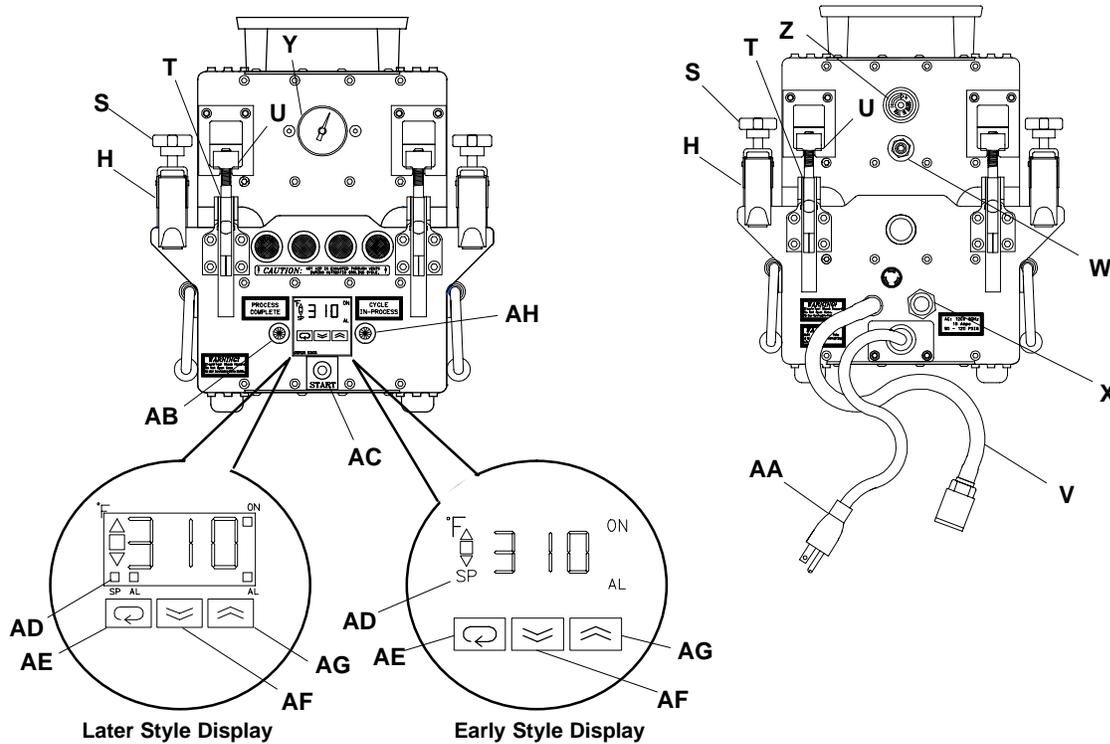

Figure 6: Heat Press - Front Side View (left) & Back Side View (right)
<p>Upper half of press is heavy and may require two people to lift it. Make sure temperature controller and pressure gauge are on the same end. Lock down the two main tension latches (T of Figure 6), on each end. Latches should be snug but not tight. If latches are too tight or too loose adjust barrel nut (U), on each latch, until a slight amount of resistance is felt while being locked.</p>
- Connect gray bladder air hose (V of Figure 6), attached to bottom half of heat press, to fitting (W) on top half. Apply 75–125 PSI (525 to 875 kPa) supply air pressure to air inlet fitting (X) on lower press half [gauge (Y) on front should read 15 psi]. If necessary, adjust regulator (Z) on back of press.
10. Adjust the required set point temperature (listed in Table 1) on temperature controller. The set point temperature is displayed when the green (later style) or red (early style) "SP" indicator (AD of Figure 6) is lit on the display. The  key (AE) will toggle the display between the present and set point temperature. Adjust the set point temperature by depressing the  (AF) and  (AG) keys.
11. Depress the start button (AC). The green (AB) process "complete" indicator will go out and the red (AH) "cycle in-process" indicator will light. This will start the automatic heating and cooling cycle of the press of approximately 20 to 30 minutes.